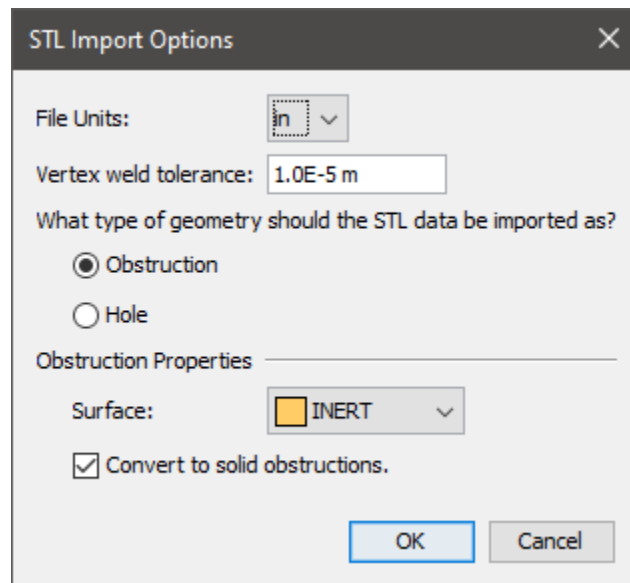

Figure 28. STL Import Options dialog
3. Enter the import options in the **STL Import Options** dialog as shown in Figure 28.
In Figure 28, the following options can be specified: